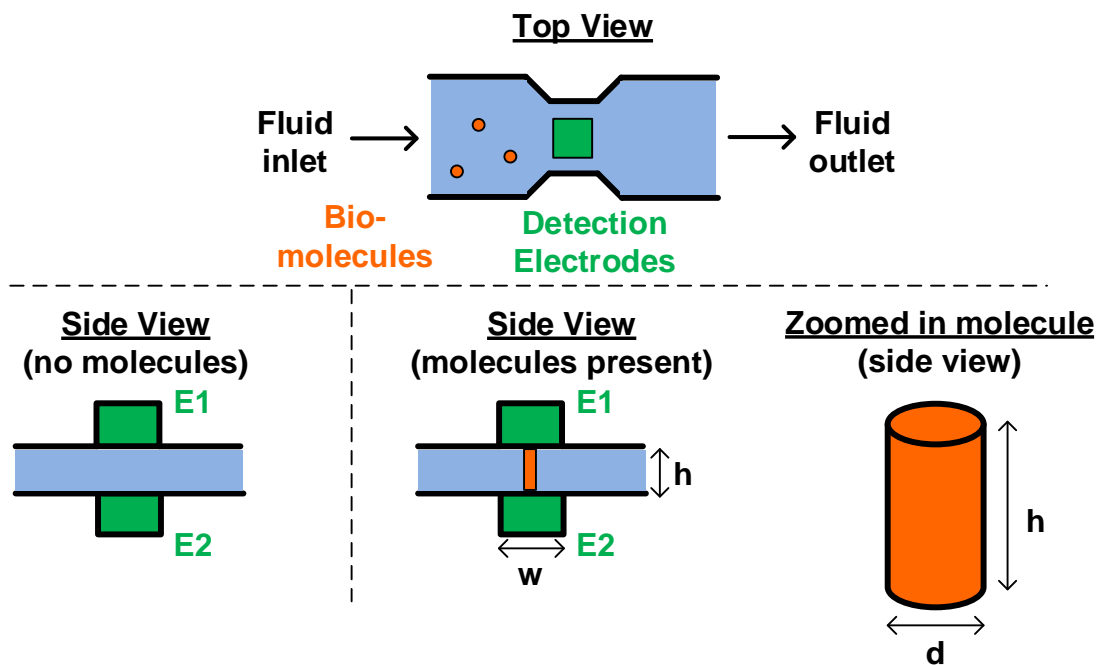

Fig. 1: Cartoon of our simplified bio-molecule detector system.
As shown in Fig. 1 above, the detector works by flowing a liquid that may or may not contain the biomolecules through a region in the device that has electrodes on the top and bottom of the liquid channel. The electrodes (E1/E2 in Fig. 1) are chemically “functionalized” (using e.g. some appropriately designed antibodies) so that if the specific bio-molecule of interest is present in the fluid sample, one or more of the molecules will get physically trapped between the two electrodes
(bottom right of Fig. 1). After all of the fluid has been cleared out of the device (i.e., so that if there are bio-molecules present, there is only air in between the two electrodes E1/E2), we can then figure out whether or not one or more bio-molecules were trapped by measuring the resistance between the two electrodes, the capacitance between the two electrodes, or both.
- (a) Let's first assume that we want to detect the presence of a bio-molecule by measuring resistance. If no bio-molecule is present, what should be the resistance between E1/E2? As shown in Fig. 1, if each bio-molecule is a cylinder with diameter  $d = 10\text{nm}$ , height  $h = 100\text{nm}$ , and has a resistivity  $\rho = 100\ \Omega\cdot\text{m}$ , what would be the resistance between E1 and E2 if only a single bio-molecule has been trapped? Note that you can assume that the trapped molecule is exactly vertically oriented when it is trapped – i.e., the top and bottom faces of the molecule are both aligned with surfaces of the electrodes.